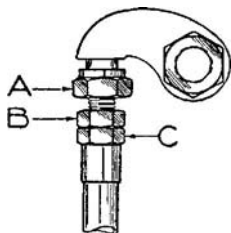

FIG. 47. TAPPET ADJUSTMENT ON 350 c.c. 500 c.c. O.H.V. ENGINES (see also Fig. 48)
Detach the cover from the off-side of the rocker-box after removing the three retaining nuts and fibre washers. This exposes the inlet and exhaust tappet adjustment. As may be seen in Figs. 47 and 48, each push-rod has an adjustable head A secured by a lock-nut B to the push-rod sleeve C*
1. **Compression Plate Omitted (1949 onwards).** Turn the engine (350c.c. or 500 c.c.) over slowly until the piston is at T.D.C. on the compression stroke, with both valves closed. See that the exhaust-valve lifter is not preventing the exhaust valve from seating fully. Then check the tappet clearance for both tappets (see above). Referring to Fig. 47, if an adjustment of either or both tappets is required, hold the push-rod sleeve C with one spanner, and with another loosen the lock-nut B. Then screw the adjustable head A up or down until a tappet clearance of nil is obtained.
2. **Compression Plate Fitted.** On 1945-8 500 c.c. engines having a compression plate, to adjust the tappet clearance, first rotate the engine until the exhaust valve lifts off its seat. Referring to Fig. 47, first slacken the lock-nut (B) on the exhaust push-rod (C). Next rotate the engine until the inlet valve is lifted off its seat. Loosen the lock-nut (B) on the inlet pushrod (C). Now screw the adjustable head (A) of the exhaust push-rod up or down as required to obtain a clearance of nil. Further rotate the engine until the exhaust valve is lifted off its seat. Now tighten the lock-nut (B) on the exhaust push-rod. Afterwards screw up or down as required the adjustable head (A) on the inlet push-rod (C) until tappet clearance is nil. Again rotate the engine until the inlet valve is raised, and tighten the lock nut on the inlet push-rod.